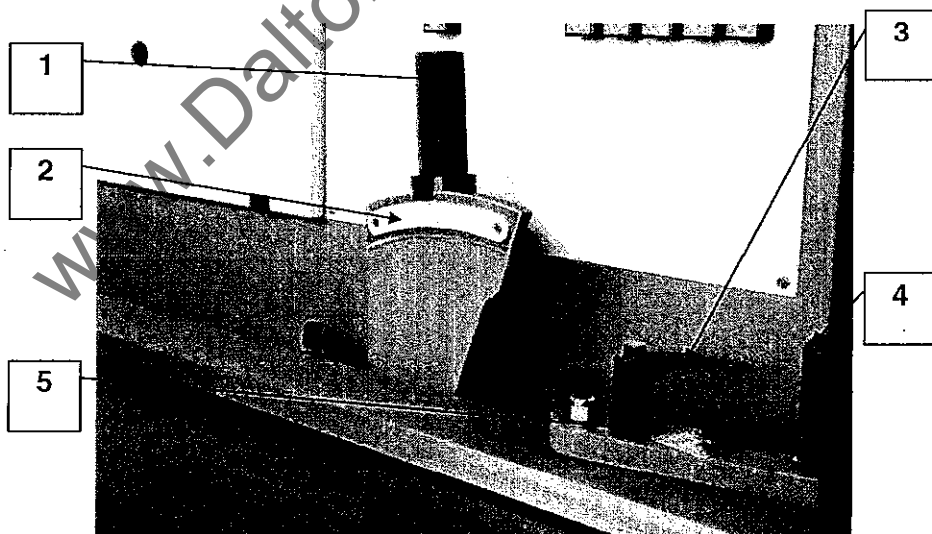

Figure 5.10
5. 10 Infeed Table and Fence Adjustment (Figure 5.10)